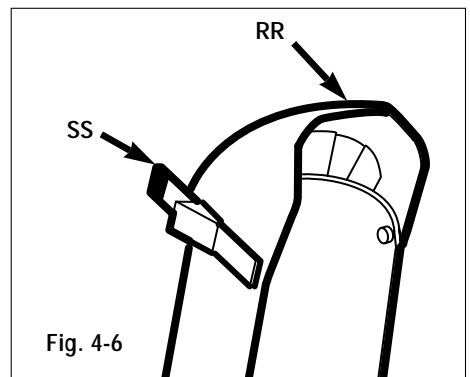

Fig. 4-6
2. Adjust the discharge chute deflector cap (RR, Fig. 4-6) angle with adjustment lever (SS, Fig. 4-6). The discharge chute deflector cap should usually be adjusted to a low angle, so it is not pointing at any persons, animals, buildings or vehicle, especially in windy conditions.